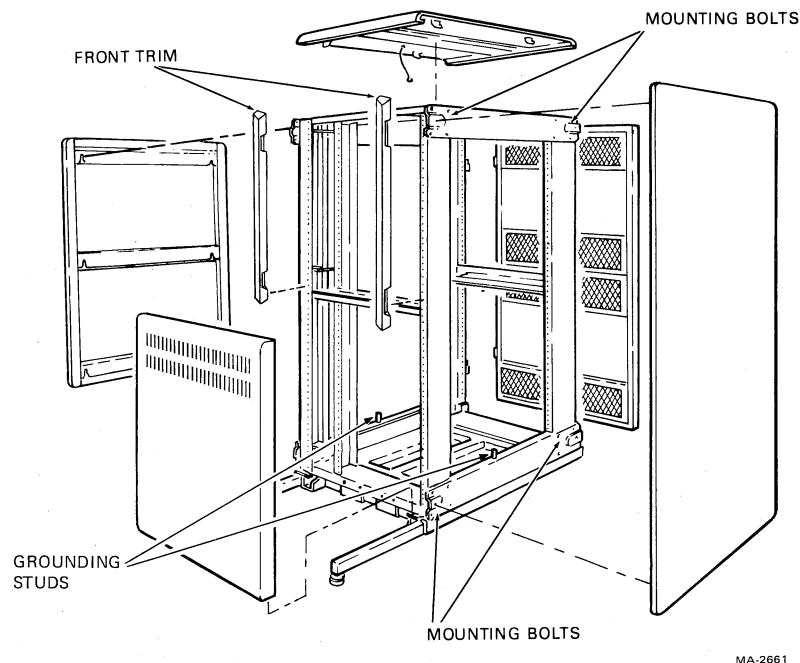

Figure 3-11 Cabinet with Side Panels and Top Cover Removed
10. Using the green/yellow ground cable provided, ground the TU78 cabinet frame to the CPU cabinet frame. The grounding studs for the TU78 are located on the lower side frame members (Figure 3-11).
10. Remove the end panel on the right side by grasping it on both sides and lifting it off the four mounting bolts. If the side panel does not lift off, it may be necessary to loosen the mounting bolts. In this case, remove the front panel trim to gain access to the upper front mounting bolt. To remove the trim, lift it up and out (Figure 3-11).